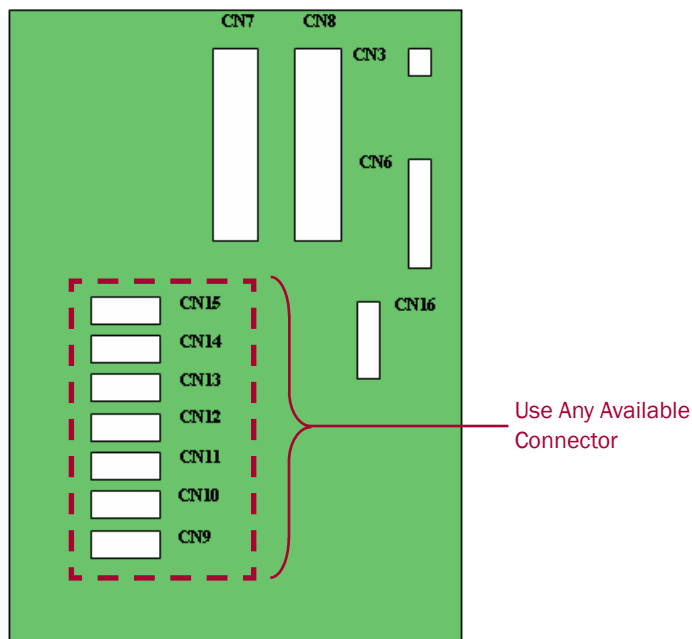

Figure 3-12: Power Supply Bay Assembly Connectors
5. **Connect** the Master Power Wiring Harness to any one of the available connectors (CN9–CN15; see Figure 3-12).